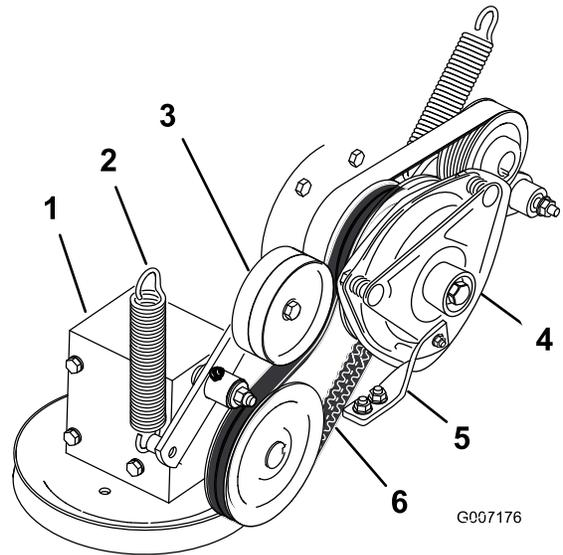

Figure 72
4. Remove the spring from the idler arm (Figure 72).
7. Install the PTO-drive belt around the clutch pulley and the gearbox pulley (Figure 72).
9. Install the spring to the idler arm (Figure 72).